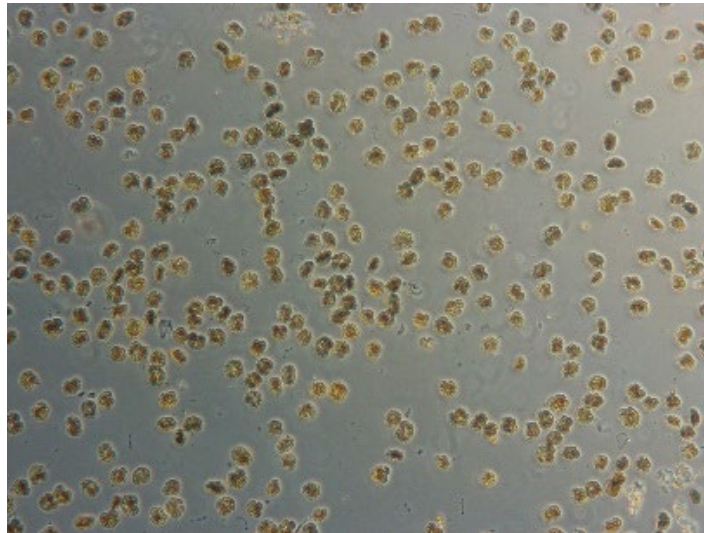

Figure 7. An example of a high concentration of *K. brevis*.
- If there is a high concentration of cells in the chamber (Fig. 7), you do NOT need to count the entire chamber section. Total counts can be estimated based on consistent row or column counts using a standard multiplier to calculate a volume count. Scan and count a few rows (not just one) to confirm consistency in distribution across the slide and record the calculated count in the notebook.